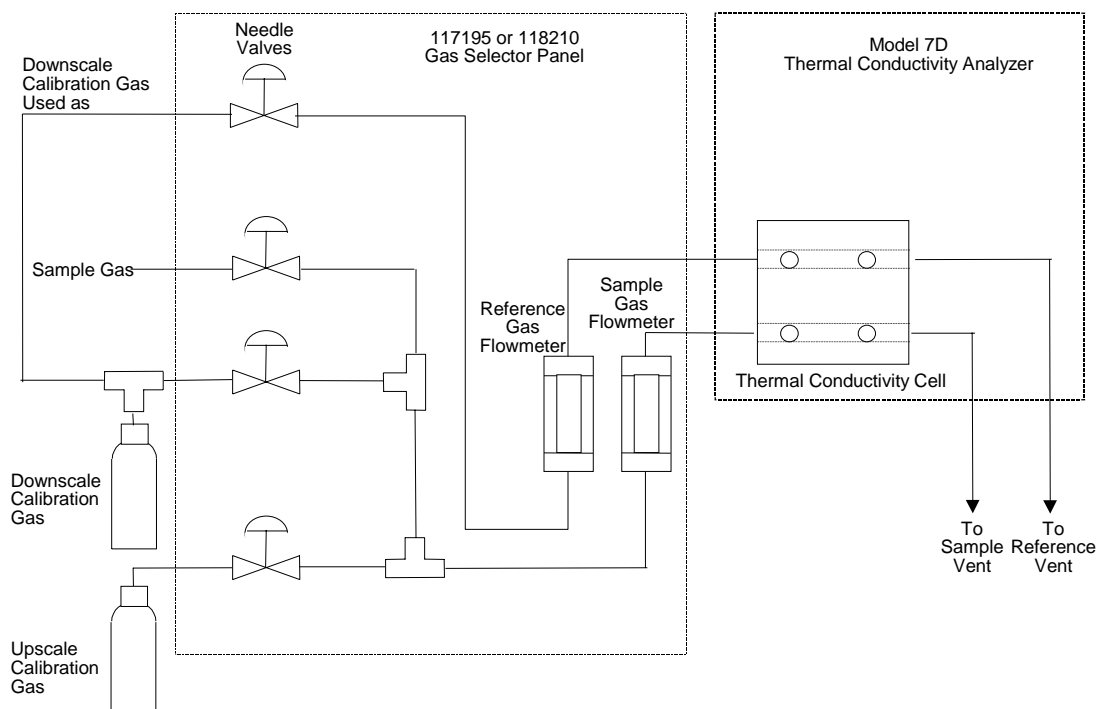

FIGURE 2-4. CONNECTION OF ANALYZER USING FLOWING REFERENCE GAS TO ASSOCIATED GAS SELECTOR PANEL
- Analyzer using flowing reference gas, Figure 2-4.